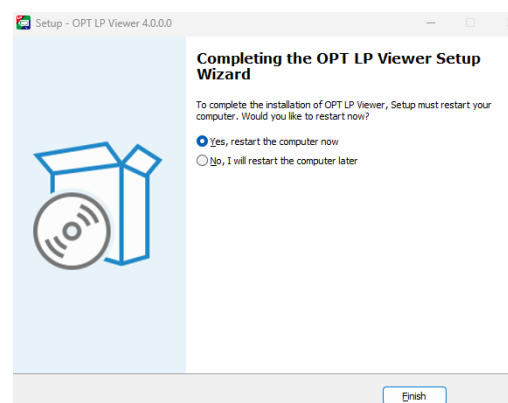

Figure 1.4.5 Installation Completion Interface
- 6 After installation is complete, you will need to restart your computer. Selecting Yes, restart the computer now will immediately restart this computer. Selecting No, restart the computer later will not restart the computer at this time. As shown in Figure 1.4.5.